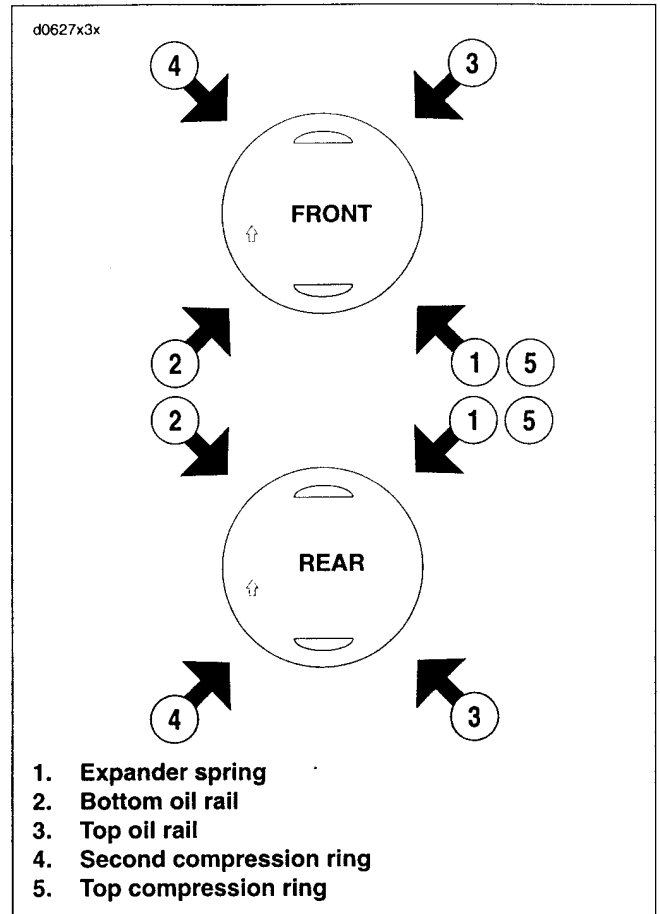

Figure 3-120. Piston Ring Gap Alignment
- h. See Figure 3-120. Verify the ring gaps are still properly staggered.